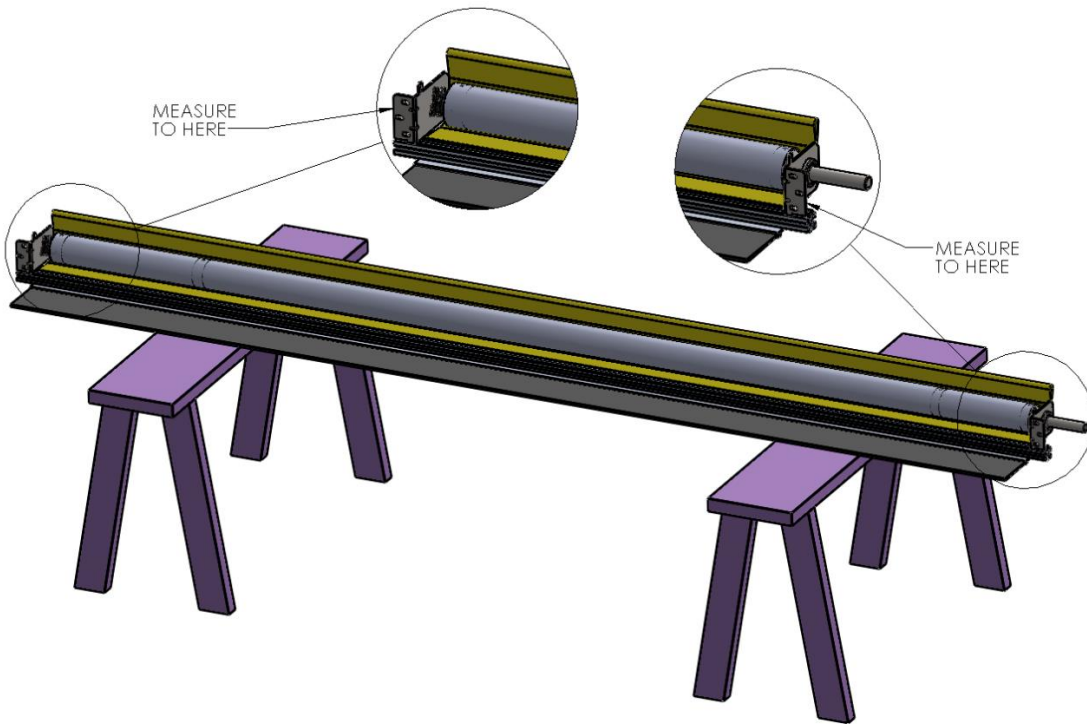

Figure 2 MEASURE DOOR HEADER WIDTH
2. Place the G1 Door roll Header Assembly across a safe and level work surface, and rotate the roll assembly frame so that the Header Bracket Mounting flanges are facing upward. (Figure 2 MEASURE DOOR HEADER WIDTH).
3. Measure the total width of the whole roll assembly from outermost edge of one Header Bracket's Mounting flange to the outermost edge of the opposite side. (Figure 2 MEASURE DOOR HEADER WIDTH)